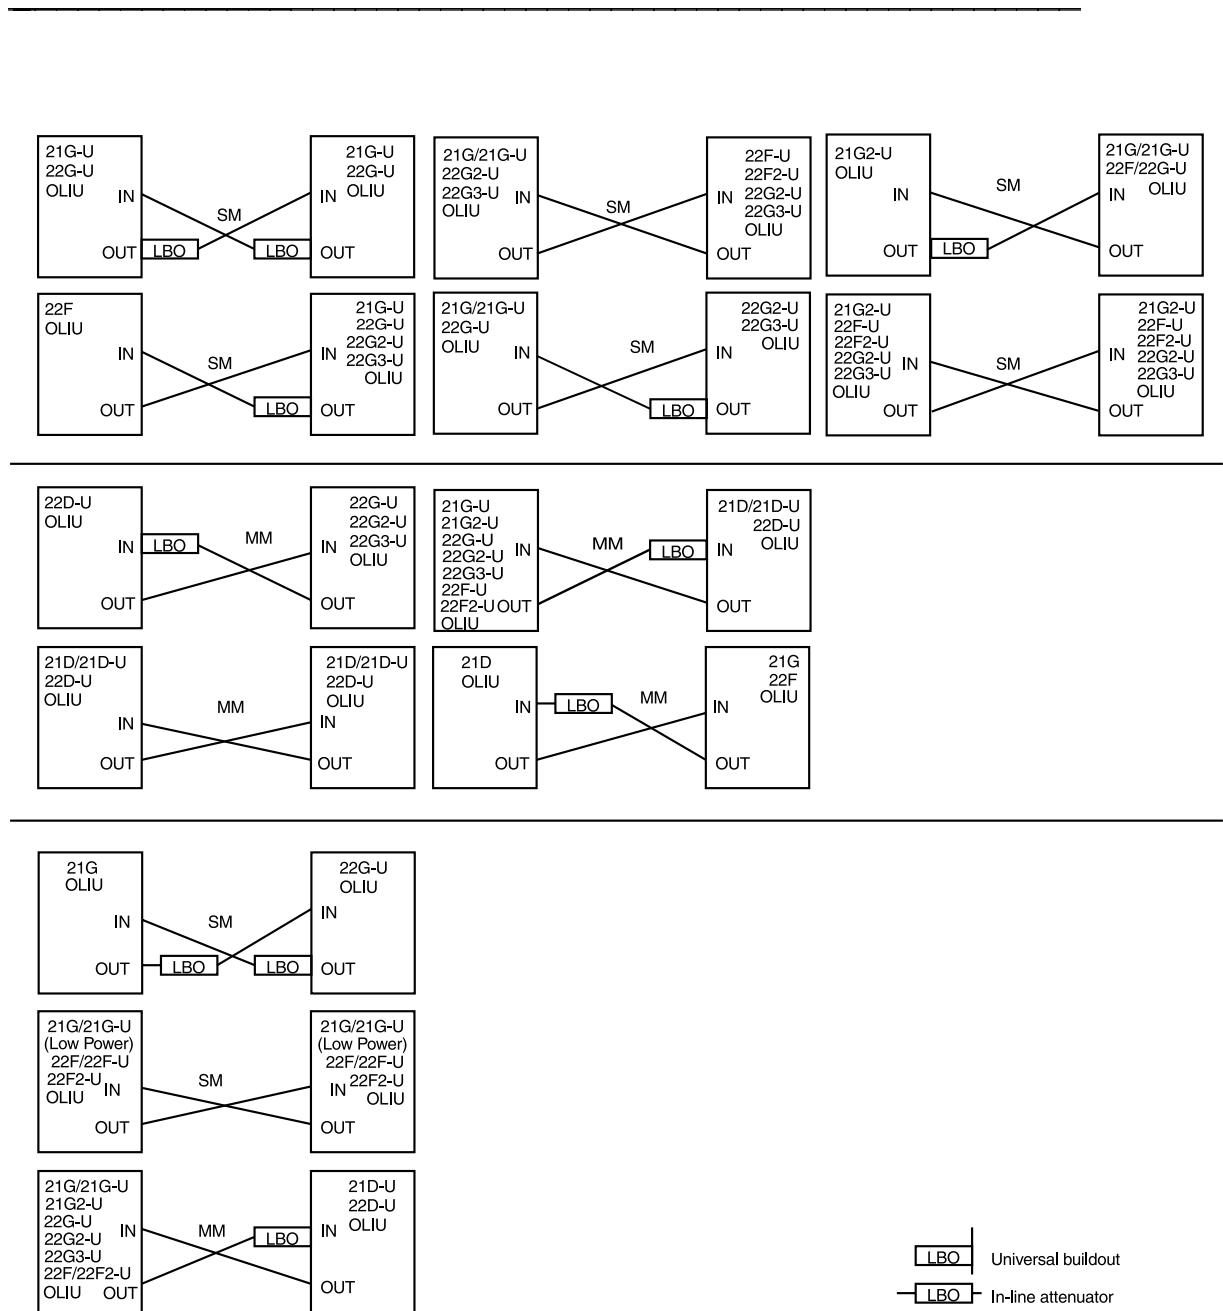

Figure 1. DDM-2000 OC-3 to OC-3 or OC-3 to OC-12 FN Fiber Optic Connections and Line Buildouts
Steps 6 through 9 are used to measure optical power. Replace LBOs with 0 dB LBOs per Figures 1, 2, 3, and/or 4. Connect the optical fiber transmit cable to the **OLI** **OUT** connection. Measure the optical power of the optical fiber receive cables at the other ends using an optical power meter.
6. At both ends of the optical span, replace the *ST*, *FCPC*, or *SC* LBOs with 0 dB LBOs per Figures 1, 2, 3, and/or 4 [**DLP-552**].
9. Replace the lightguide buildout assemblies with the correct buildout assemblies per Figures 1, 2, 3, and/or 4 and Tables C, D, E, F, G, H, I, J, K, L, M, and/or N [**DLP-552**].